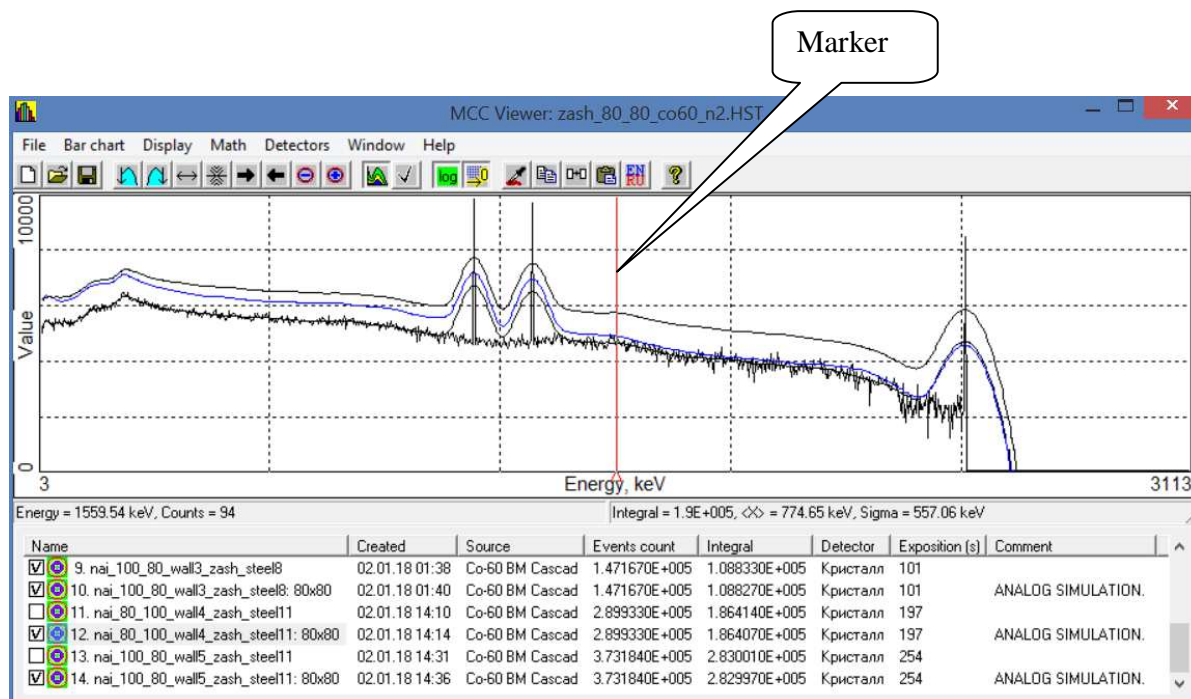

Figure 40. Appearance of the module "**MCC Viewer**"
The appearance of the module "**MCC Viewer**" consists of a main menu, a toolbar, a panel with histograms of spectra and a table with the names of the spectra and some of their data (see Fig.40).
**Set left border / Set right border** – menu items designed to scale graphics. Before clicking on this item, you need to move the marker (see Fig. 40) to the channel that should become the left border of the graph, and then click **Set left border**. To change position of the marker move the mouse cursor over the marker area and click left mouse button and by pressing it move it to the